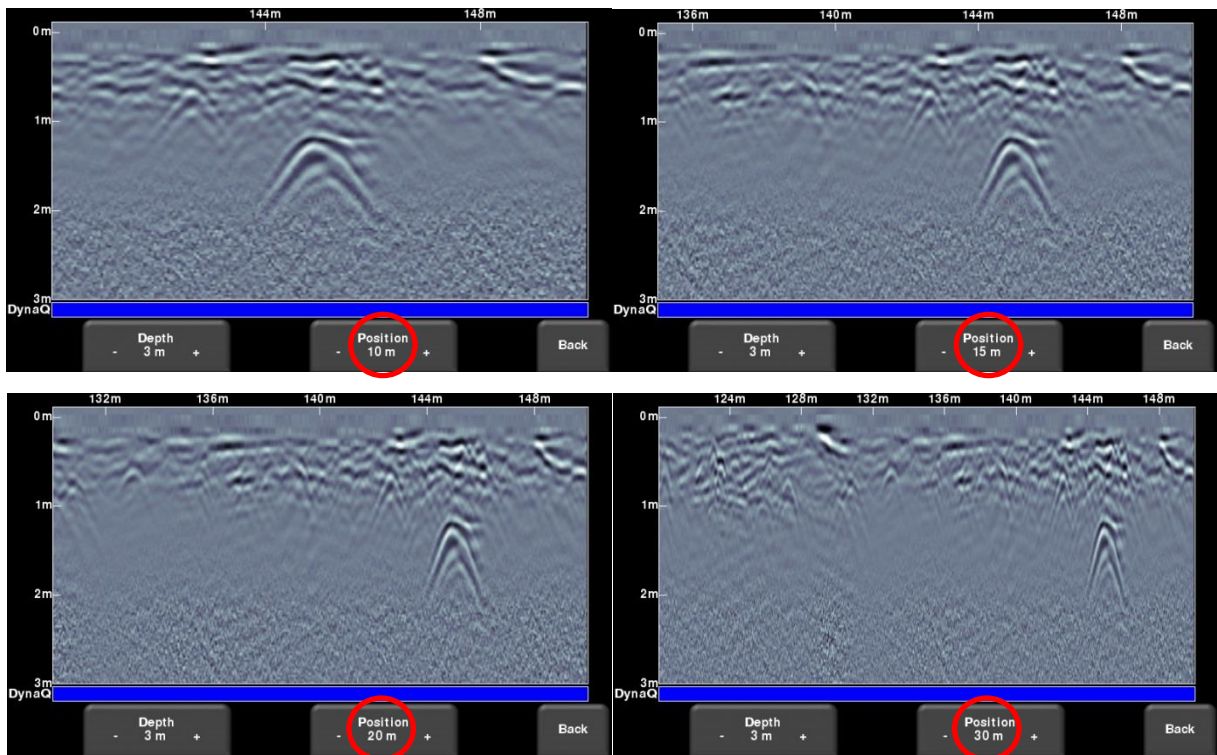

Figure 8-7: Varying position, or horizontal scaling
- **Position** – Pressing + and - under the **Position** button allows you to change the length of data display on a single screen. This is also known as horizontal scaling. The pre-set values range from 10m to 30m (25' to 100'), see Figure 8-7.